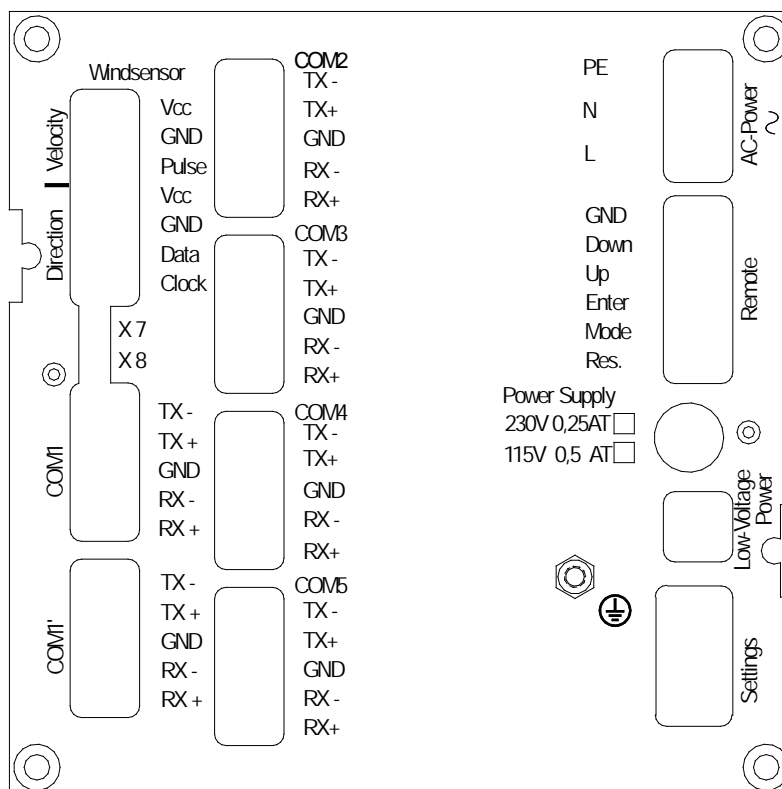
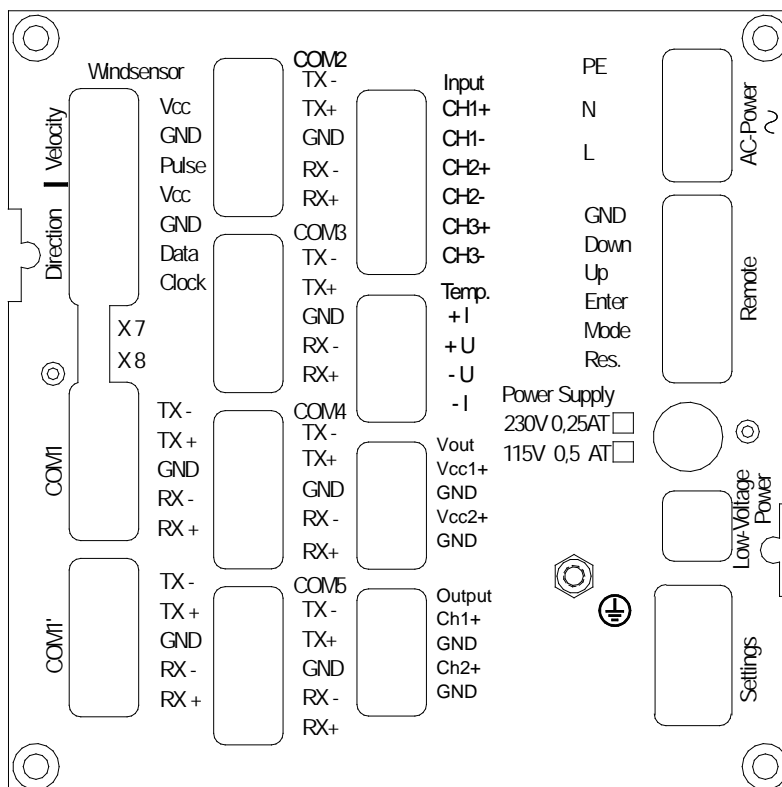

Figure 2: Rear panel 4.3251.0x.001
Figure 3: Rear panel 4.3251.0x.x02
All connector pins are located on the rear panel (refer to **Figure 2**: Rear panel 4.3251.0x.001 ; **Figure 3**: Rear panel 4.3251.0x.x02
- The integrated termination resistor (RT=200Ω) can be activated (**Figure 3: Rear panel 4.3251.0x.x02**) through use of a Jumper (X7) on the receiver (slave).